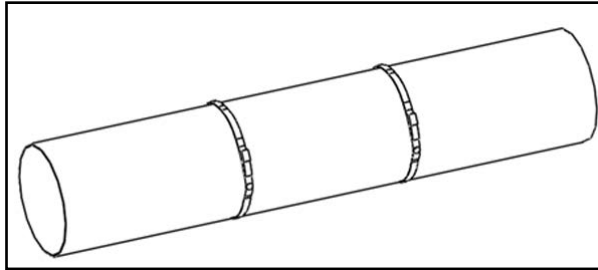

Figure 10: Mounting Straps Installed on Pipe
- b. Install the two mounting straps on the pipe about 12 in. (30 cm) apart (see *Figure 10 below*).